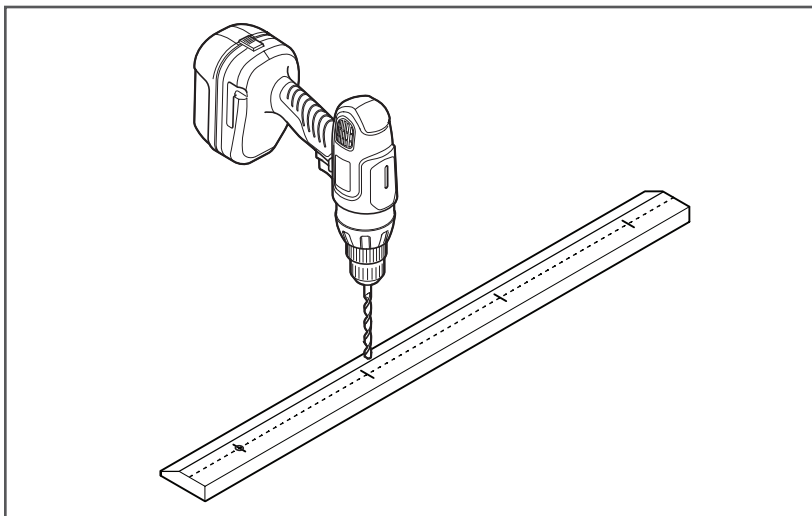

Figure 3
5. Drill pilot holes through measurement lines in the cleat using an 1/8" drill bit (Figure 3).